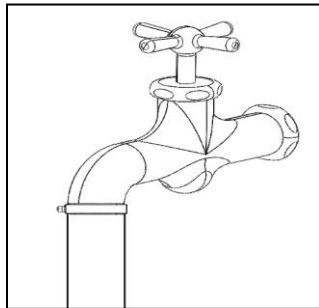

Fig. 2
3. Prepare a hose. Attach the hose to a water supply main (Fig. 2).